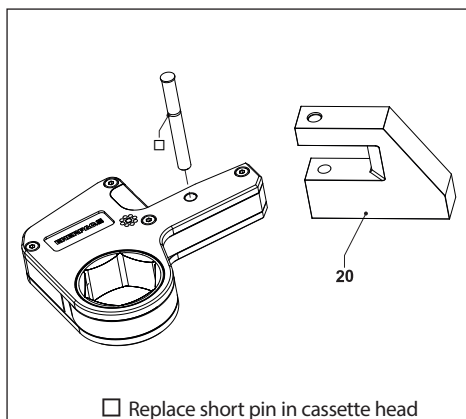
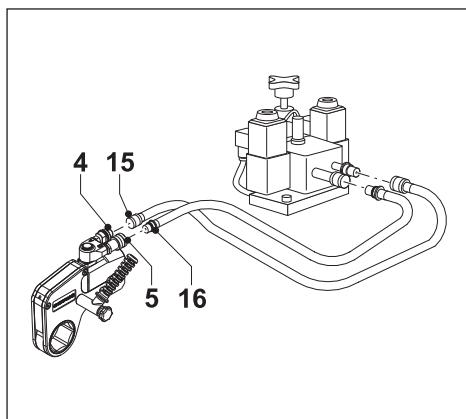

Fig. 7
Fig. 8
3.4.1 To Attach the WRP Series Reaction Paddle (Fig. 7)
- Install the cassette in to the cut out in the WRP Series reaction paddle (20) aligning the holes in the paddle with the hole in the cassette.
3.5 To Connect the Hoses (Fig. 8)